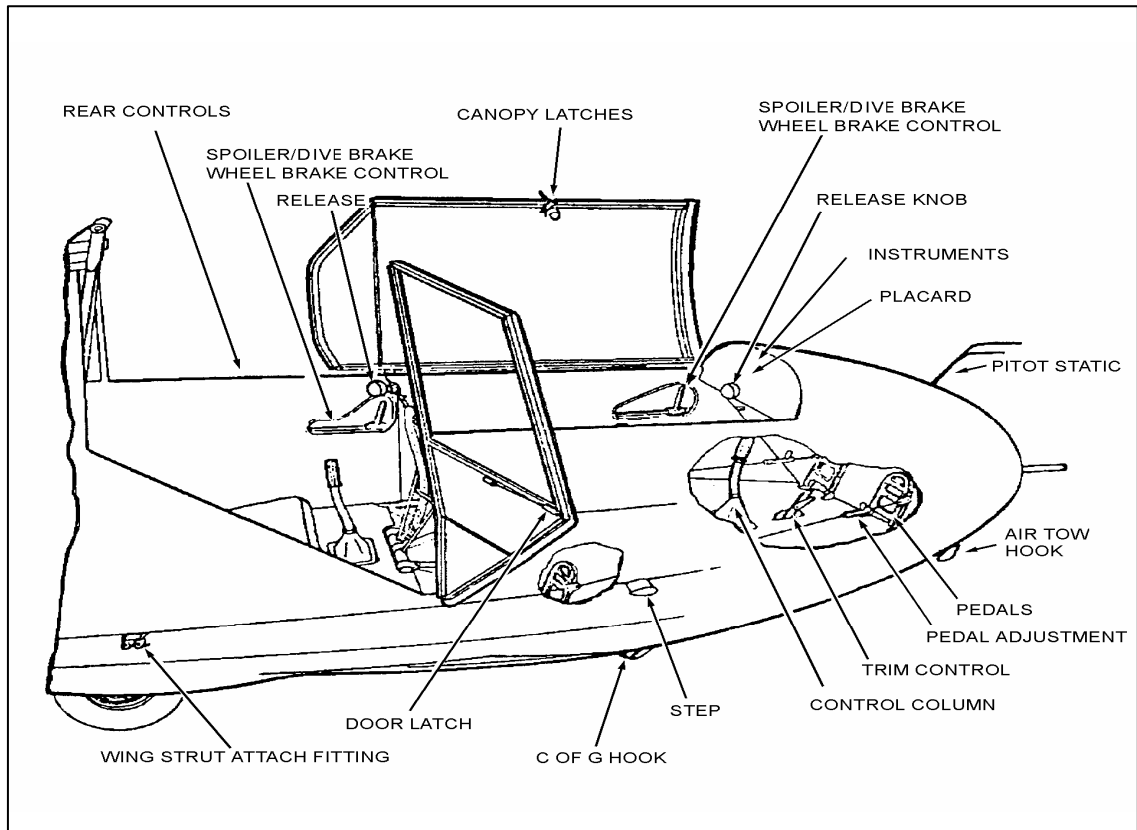

Figure 2-1-1 2-33 Cockpit and Controls
- (1) When flying with dive brakes extended, the stall speed of the 2-33 is 36 mph solo and 40 mph dual. It is unsafe, however, to make an approach with dive brakes open in the speed range of 36 to 43 mph, as the rate of descent is so great that a proper flare-out for landing cannot be made.
- (2) Beginning with 2-33 Serial No. 500, a new main landing wheel, including a hydraulic brake installation, is provided, superseding the mechanical brake. The hydraulic brake is rigged so that it is actuated only at the extreme aft position of the dive brake/wheel brake control handle. The main wheel is a split-rim type incorporating a Cleveland Model 30-63D hydraulic brake. This is a disc-type brake, actuated by a Gerdes Products A049-3P master cylinder located adjacent to the control bellcrank on the left hand side, aft of the rear seat.
6. **Control Column.** Front and rear controls are conventional in design and are mounted on a single torque tube (see Figure 2-1-1).